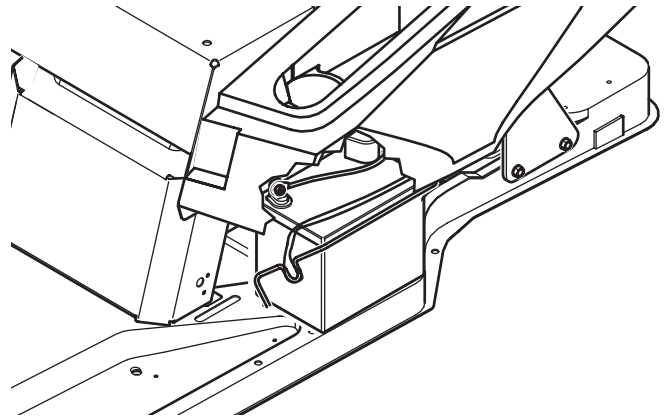

Figure 3. Installing the battery
1. Install and secure the battery in the battery compartment (Figure 3).